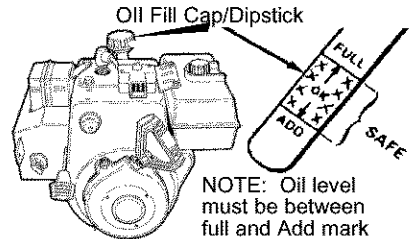

Figure 20
3. If necessary, add oil until the oil reaches the FULL mark on the oil fill cap/dipstick (see Figure 20). Do not add too much oil.